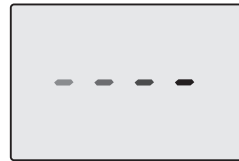
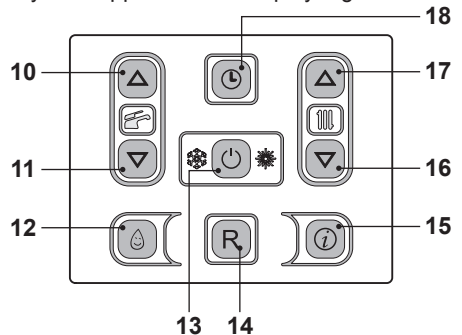

Fig. 7.4
Fig. 7.5
- Electrically power the boiler by switching on the double pole isolation switch. The LCD will display, the - - - - symbol (Fig. 7.4).
- Press the 13 key for 2 seconds until  symbol appear on the display Fig. 7.5.
- Switch off the boiler by pressing the 13 (Fig. 7.5) key for 2 seconds until the --- symbol appears on the LCD display (Fig. 7.4).